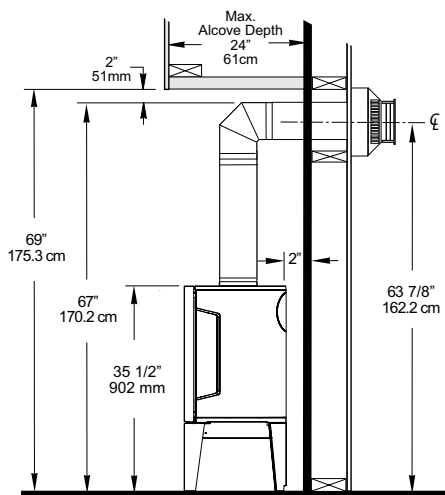

Figure 6.8. Minimum vent required for horizontal termination.
- Any horizontally-terminated vent run must include a minimum 24" (61 cm) vertical rise. See figs. 6.8, 6.9, 6.10.